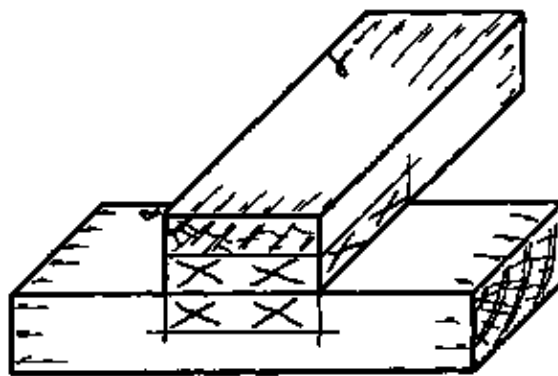

Fig. 4
– Place the pin over the position of the socket and check the fitting (Fig. 4, previous page).